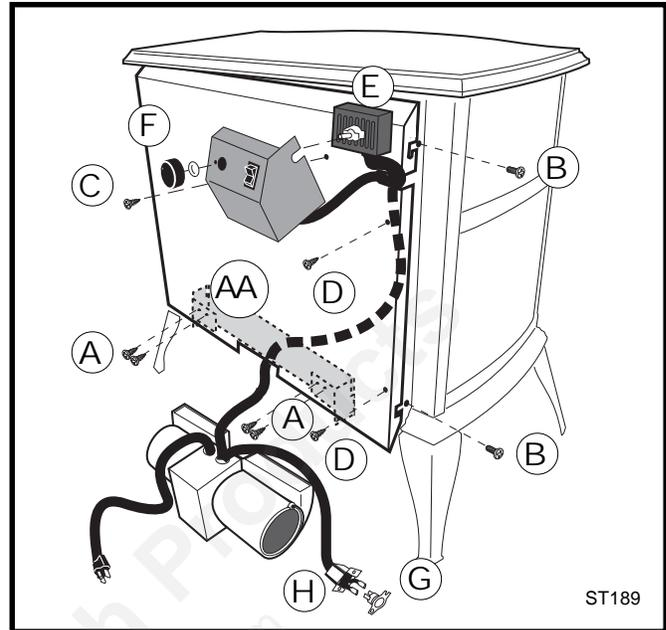

Fig. 10 Open the rear shroud and install fan control switch.
These directions are oriented facing the rear of the stove. Position the fan under the rear shroud as shown in Figure 10.
1. Remove the fan bracket. Remove the four sheet metal screws (A) to detach the bracket (AA) from the Rear Shroud. (Fig. 10)
2. Open the left side of Rear Shroud. (Fig. 10)
- Remove the round head phillips screws (B) that secure the shroud to the side of the stove.
- Remove the sheet metal screw (C) that fastens the switchbox to the rear shroud.
- Remove the two sheet metal screws (D) that secure the inner and outer shroud together. Let the switchbox and wiring hang loosely.
3. Install the Control Switch. (Fig. 10)
- Run the control switch (E) and wire up along the side between the inner and outer shrouds and through the slot at the side.
- Attach the switch to the switch box with the retainer collar and control knob (F).
- Secure the switch box assembly to the rear shroud with the single sheet metal screw (C).
- Disconnect the snapstat module (G) from the leads inside the snapstat bracket (H).
- Bend open the snapstat bracket (H). Use your fingers or needle nose pliers to remove the black plastic grommet from the bracket. Discard the bracket.
- Reinstall and tighten the two sheet metal screws (D, Fig. 10) that secure the inner and outer shrouds together.
- Secure the upper corner of the shroud and switch box to the side of the stove using a 1/4 -20 x 1/2" round head phillips screw, previously removed. (B, Fig.10) Finally, replace the lower screw.